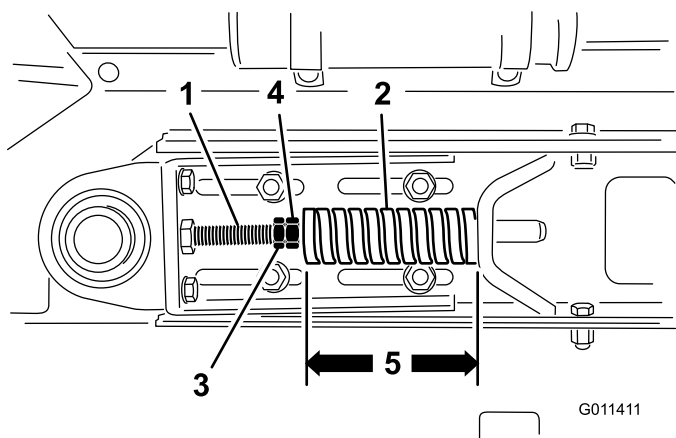

Figure 26
1. Loosen jam nuts and adjust tension rod (Figure 26) nuts to attain desired tension.